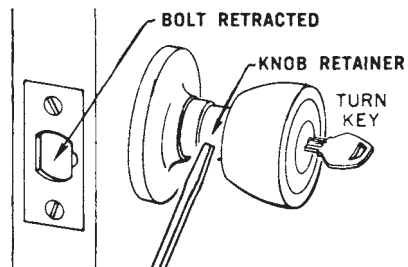

Figure 13.18 Retract latchbolt.
2. Hold the latchbolt in the retracted position with the key (Fig. 13.18). Depress the knob retainer with a screwdriver through the slot in the knob shank.